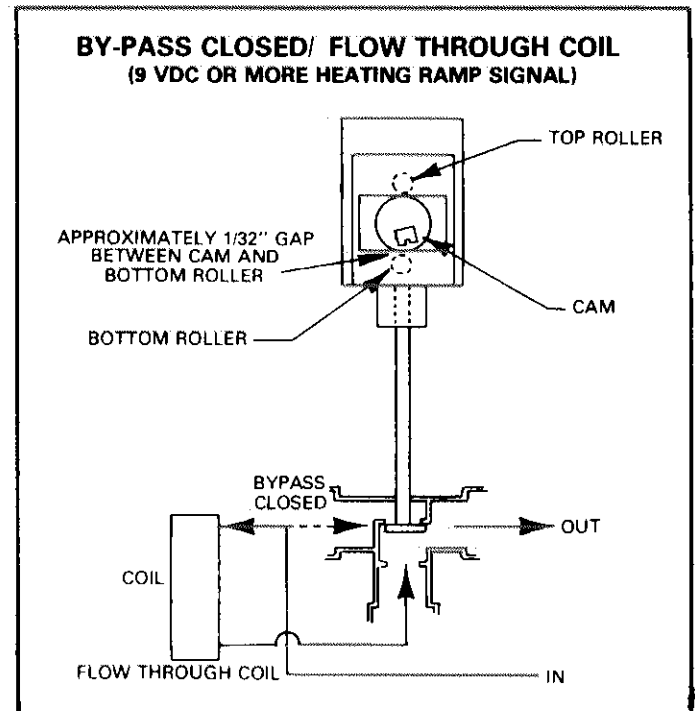

FIGURE 25
shows the motor and valve at 6 VDC or less. Figure 25 shows the motor and valve at 9 VDC or more.
- 1 - Remove leads from terminal 5 at logic panel. Put a jumper across terminals "C" and "F" at motor. Valve motor shaft should rotate clockwise, raising valve stem. Refer to Figure 25.
- 3 - Remove lead from "TR" terminal at motor. Valve motor shaft should spring return clockwise, raising valve stem. See Figure 25. With the valve in this position, the by-pass line is closed and water will flow through coil.